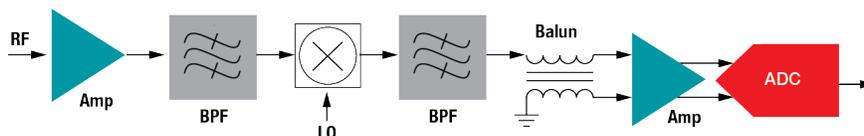
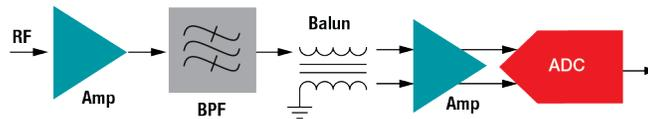

Figure 2. Typical Heterodyne Architecture
Figure 3. Typical RF sampling architecture
- Will you use a heterodyne approach (Figure 2)?
- Pros: you need only a single data-converter channel and the ADC input bandwidth is lower than radio frequency (RF) sampling.
- Cons: it requires one or more mixers, the signal image and generated harmonics will complicate filtering, and it's difficult to adjust the frequency of interest; you must move the Local Oscillator (LO).
- Will you use direct RF sampling (Figure 3)?